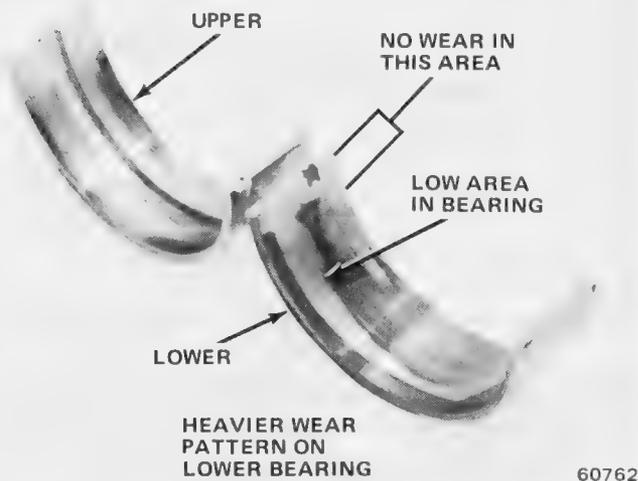

Fig. 1B-118 Normal Main Bearing Wear Pattern
(5) Remove bearing cap and determine amount of clearance by measuring width of compressed Plastigage with scale on Plastigage envelope (fig. 1B-119). Correct clearance is 0.001 to 0.003 inch. Plastigage should maintain same size across entire width of insert. If size varies, it may indicate tapered journal or dirt trapped behind insert.